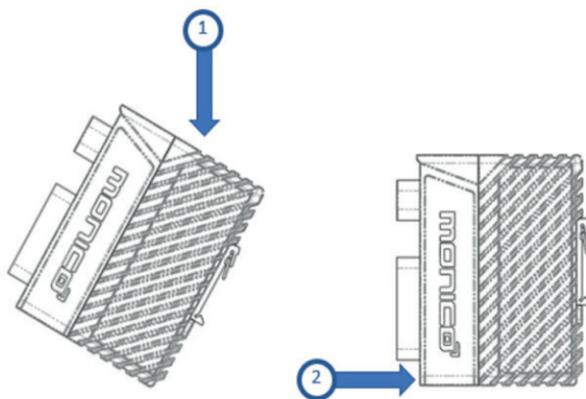

Figure 2
**DIN Rail Mount:** The mCore® SDR unit should be mounted vertically on a horizontal DIN rail. Tilt the unit to a 45-degree angle and insert the top lip of the DIN rail bracket onto the DIN rail. Then attach the bottom lip to the DIN rail to snap the unit into place (illustrated in Figure 2). A minimum of 1” of space should be maintained on all sides of the unit to ensure proper heat regulation.